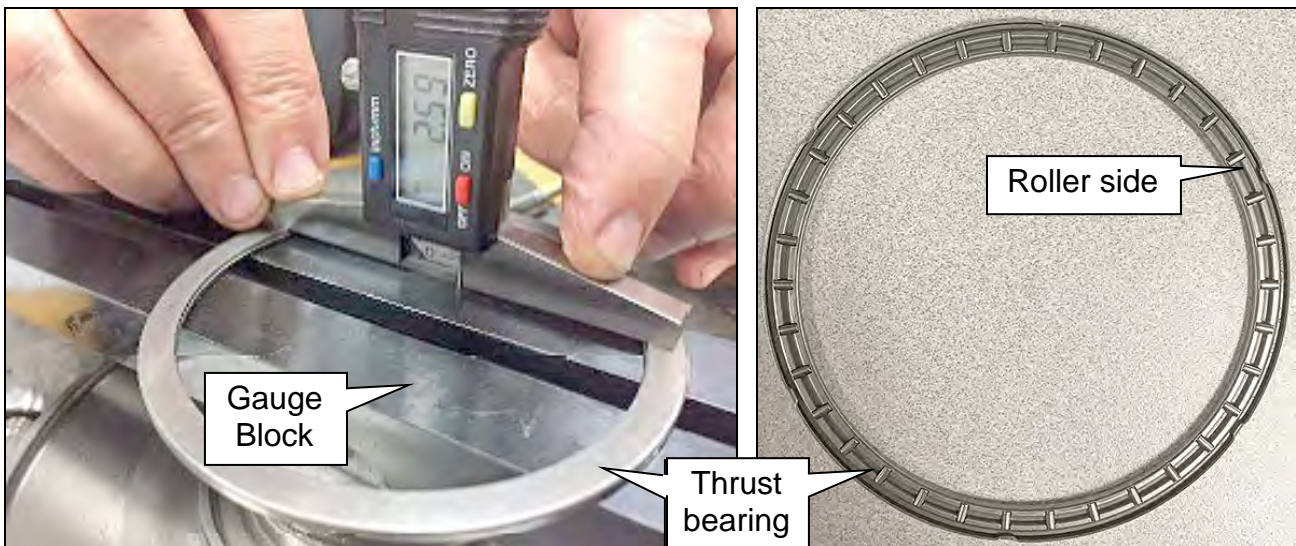

Figure 9GG
- Place the thrust bearing roller side down on the Gauge Block (Figure 9GG).